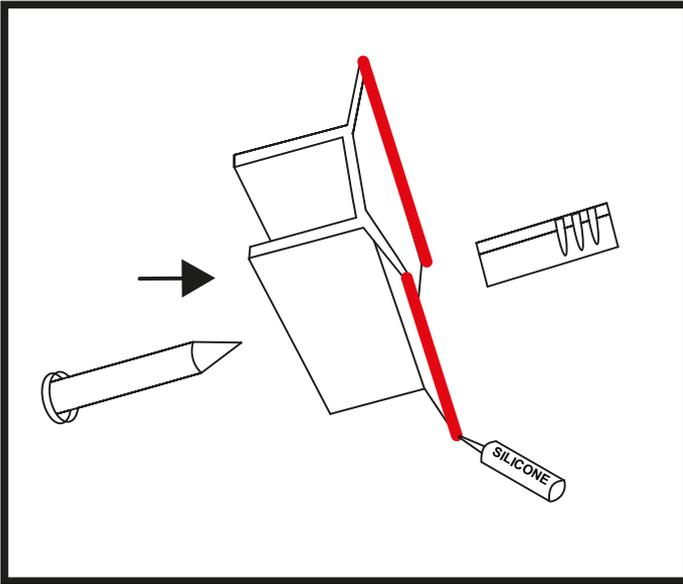

Figure 2
6. To attach the profile, apply silicone to the edges of the profile and place it on the wall, according to the previously marked locations. (Figure 2)